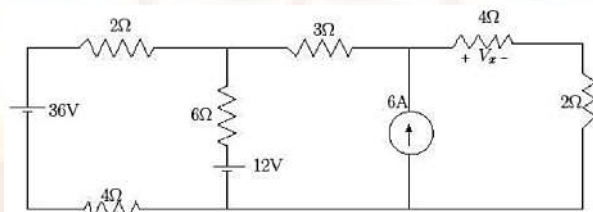

Figure 2
12. (a) Using mesh analysis, find the voltage V_x of Figure 2. (10 marks)